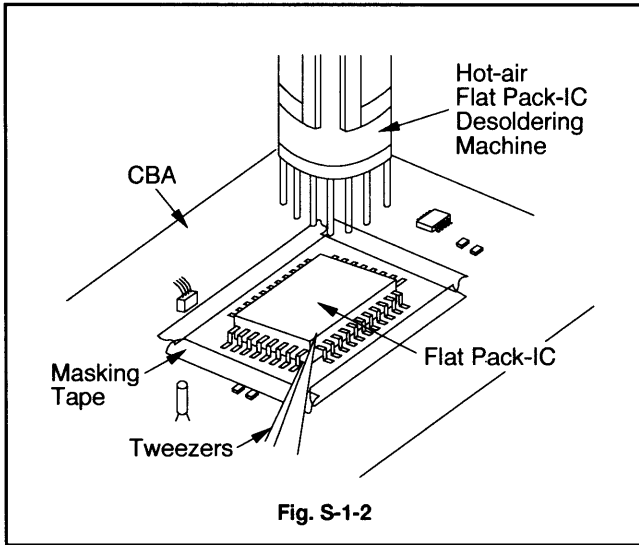

Fig. S-1-2
1. Do not apply the hot air to the chip parts around the Flat Pack-IC for over 6 seconds as damage may occur to the chip parts. Put Masking Tape around the Flat Pack-IC to protect other parts from damage. (Fig. S-1-2)